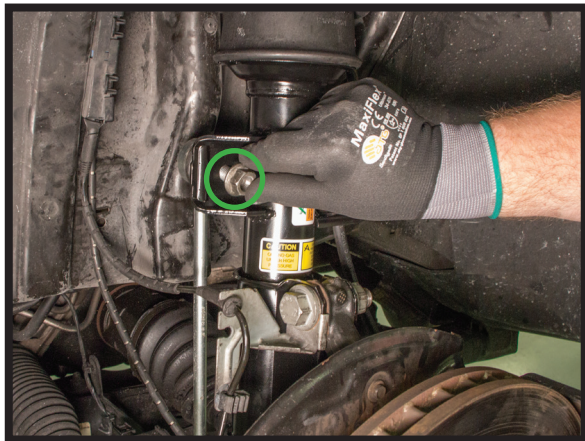

FIGURE 23
6. INSTALL THE NUT THAT HOLDS THE BALL JOINT TO THE STRUT AND TIGHTEN TO MANUFACTURER'S SPECIFICATIONS. (FIGURES 23, 24)